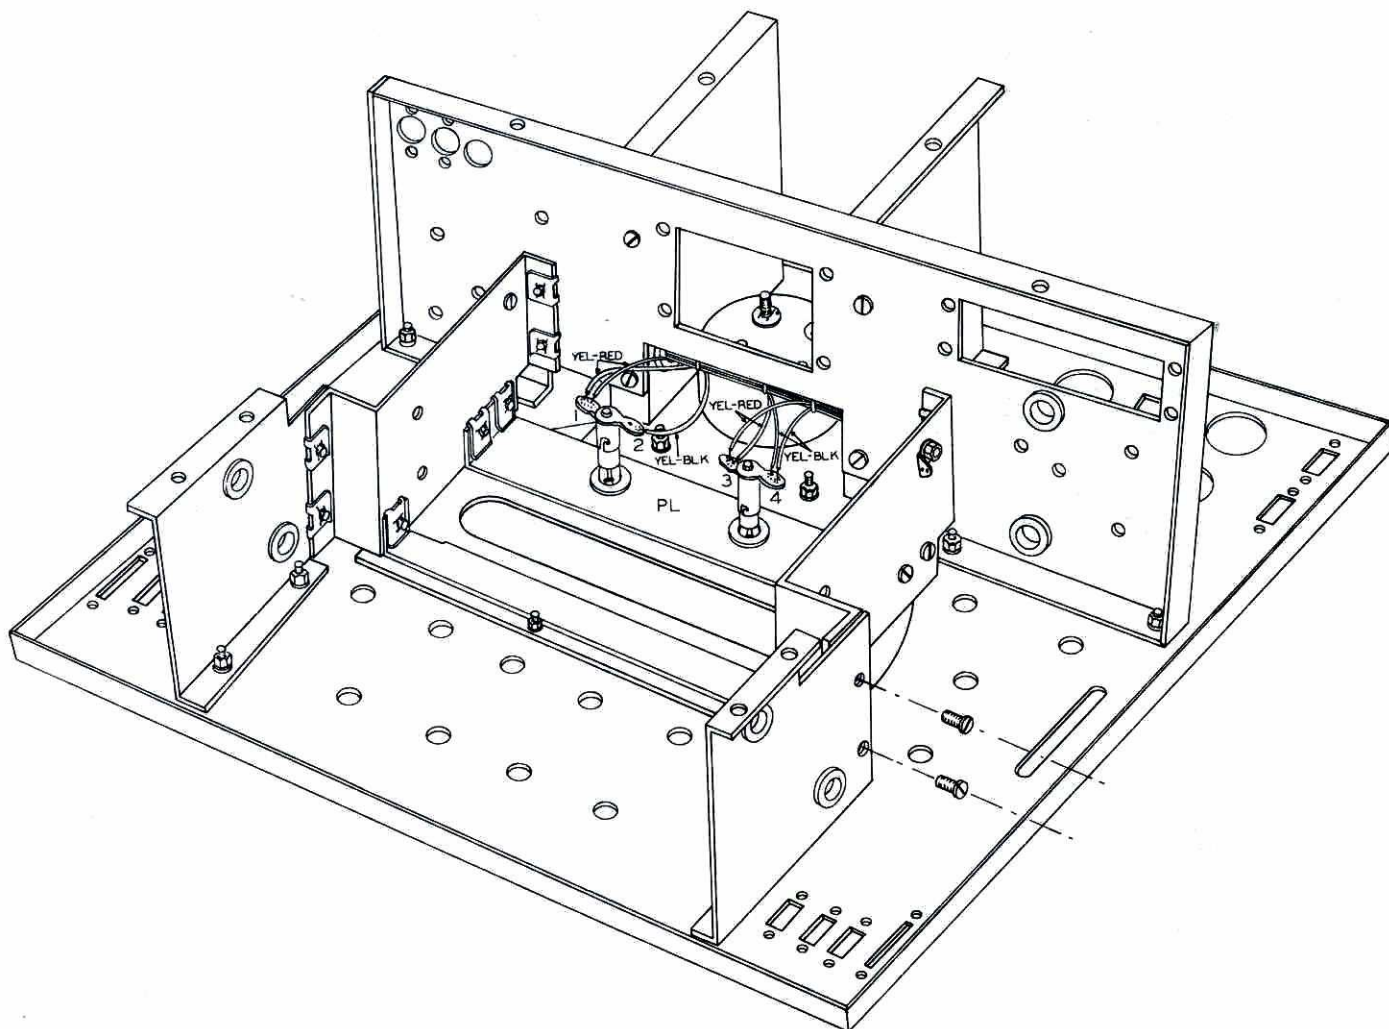

Figure 28
- () Refer to Figure 28 and set the roll chart bracket assembly into place between the subchassis mounting brackets and the chassis. Secure with 6-32 BHMS.
Connect the leads extending from the tube socket to tube socket cable harness to the panel lamp socket terminals, as shown in Figure 28.